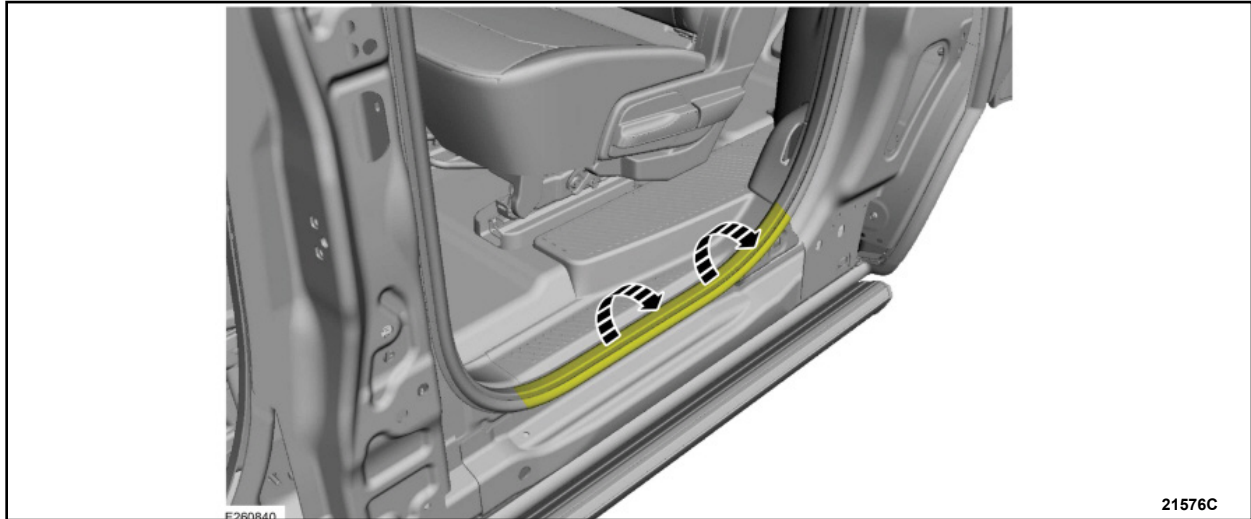

FIGURE 3
3. Position the rear door weatherstrip aside. See Figure 3.